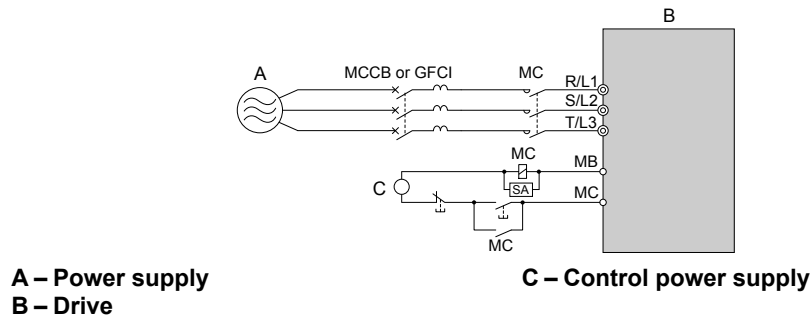

Figure 8.13 Power Supply Interrupt Wiring (Example)
- If several drives are connected to one MCCB or GFCI that is shared with other equipment, use a sequence that shuts the power OFF when errors are output by using magnetic contactor (MC) as shown in Figure 8.13.